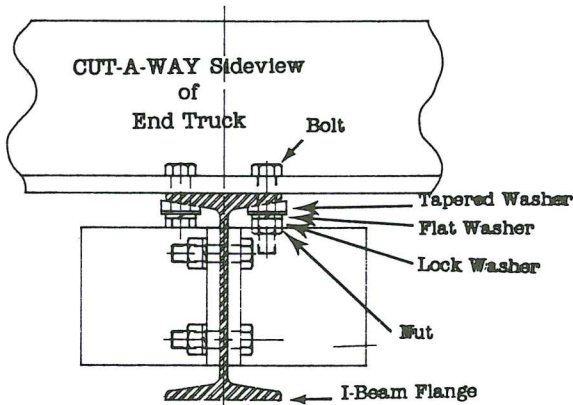

FIGURE 1
The span-beam should be at least 8 inches longer than the span from centerline to centerline of the parallel tracks. As a safety measure, each end of the span-beam must have a rigid stop installed to prevent run-off of the hoist assembly. (See Figure 1-a)
- d. The span beam should extend 4 inches on each end past the truck width. The span beam should be equipped with stops to prevent the hoist and trolley from traveling beyond the center of either parallel beam. (See Figure 1-a)
- e. Fasten the span beam to the trucks using the mounting hardware provided (see Figure 1). Double check to insure that the span beam is perpendicular to the runway beams and that the trucks are centered on the runway beams. Tighten beam mounting bolts to 90 foot pounds torque.